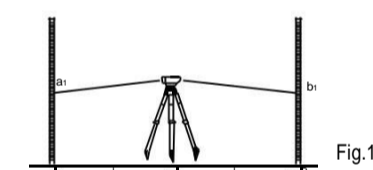

Fig.12
- (1) Set the instrument halfway between A and B. Staff A and B shall be 30~40m away, the readings are a_1 、 b_1 (Fig.12).